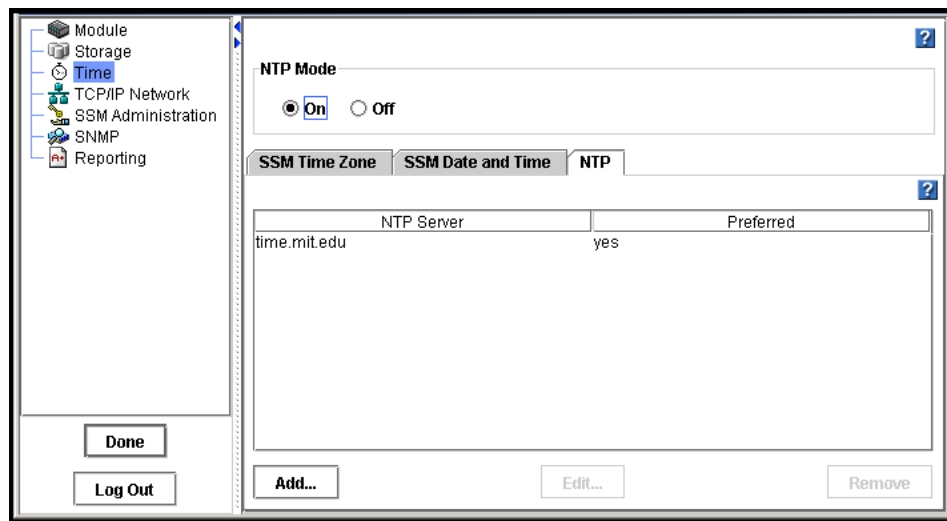

Figure 99. Viewing the List of NTP Servers
- Click OK. The NTP server is added to the list on the NTP tab, shown in Figure 99.